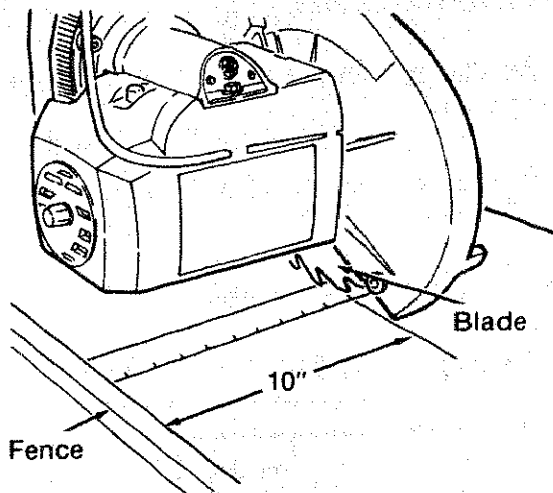

Fig. 80-B - Out-Rip Reference
7. Move the *motor* until the *blade* is 10 inches in front of the *fence*. Use a framing square, ruler or tape measure to measure this distance. (Figure 80-B)